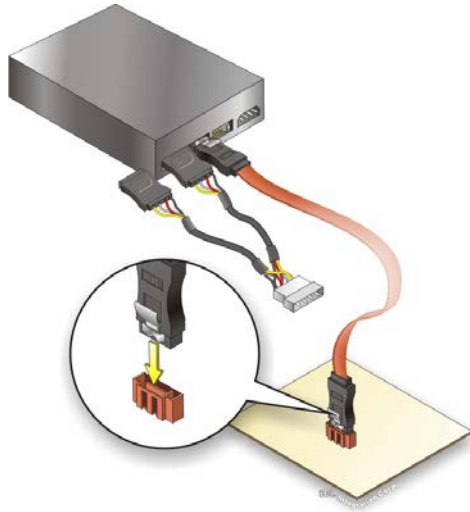

Figure 4-14: SATA Power Drive Connection
Step 3: Connect the cable to the SATA disk. Connect the connector on the other end of the cable to the connector at the back of the SATA drive. See **Figure 4-14**.
Step 4: Connect the SATA power cable. Connect the SATA power connector to the back of the SATA drive. See **Figure 4-14**.